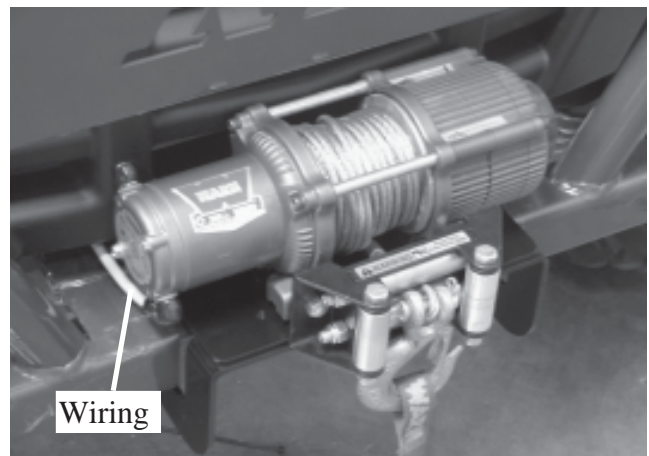

Figure 9
- Place rubber boots on the blue and yellow winch power cables. Fasten the cables to the winch terminals and route the wiring as shown, Figure 9.